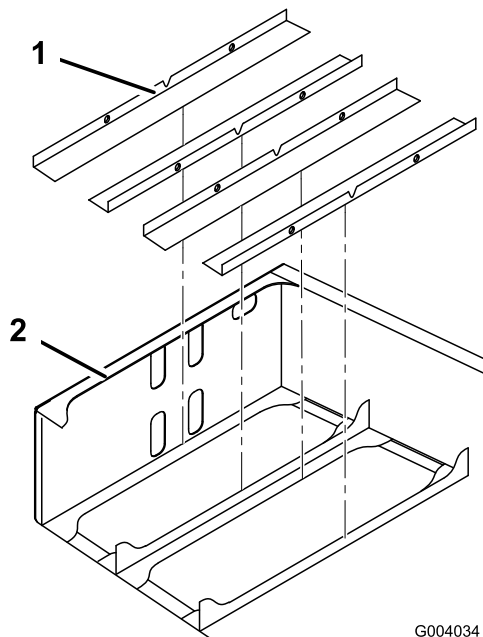

Figure 4
2. Install the battery tray pads into the rear frame assembly as shown Figure 4.